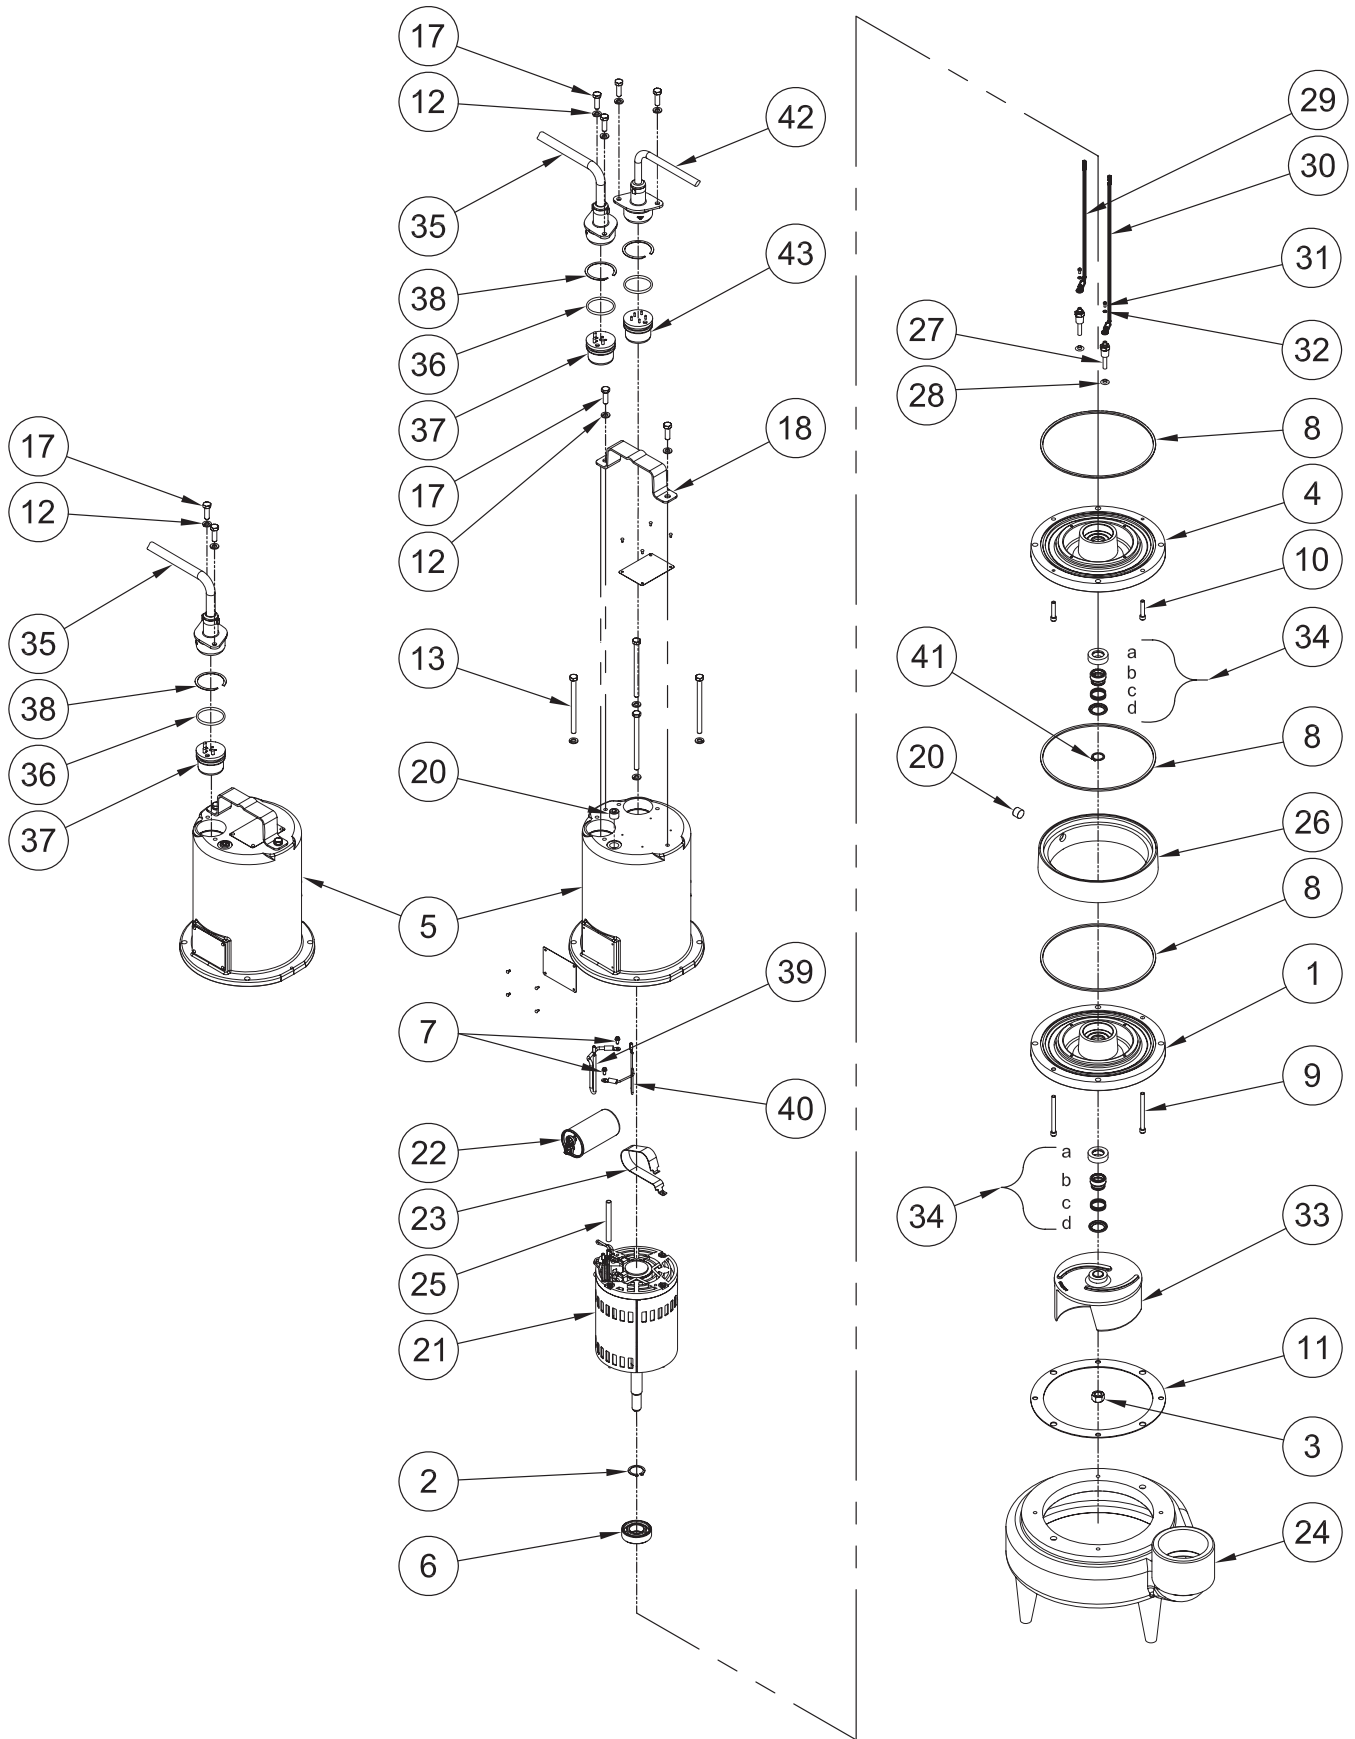

FIGURE 12
Moisture Sensors - If pump is equipped with moisture sensors, reassemble by applying thread compound to threads on probes (27) and install in upper seal plate (4), see Figure 12. Connect wire assemblies (29 & 30) to probes (27) with washers (32) and machine screws (31).
Inner Seal - To expose inner shaft seal (34) for examination, remove outer seal as outlined above. Remove socket head cap screws (8). Lift outer seal plate (1), square ring (8), spacer ring (26) and square ring (8) from inner seal plate (4) See Figure 12. If further repair is required, remove snap ring (41), retaining ring (34d), spring (34c) and rotating member (34b) from shaft. Examine as outlined in outer seal paragraph. If replacing seal, remove stationary (34a) by prying out with flat screwdriver.